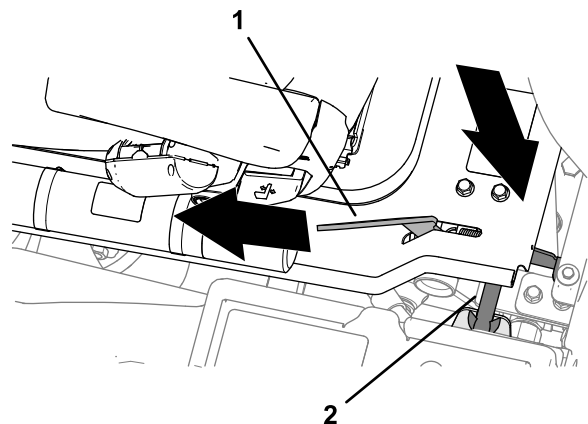

Figure 54
2. As the platform nears the fully lowered position, move the platform-latch handle (Figure 54) toward the front of the machine.